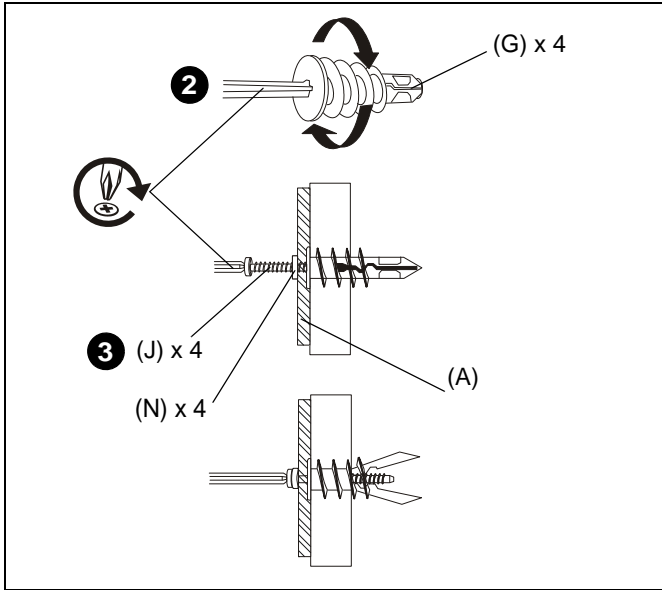
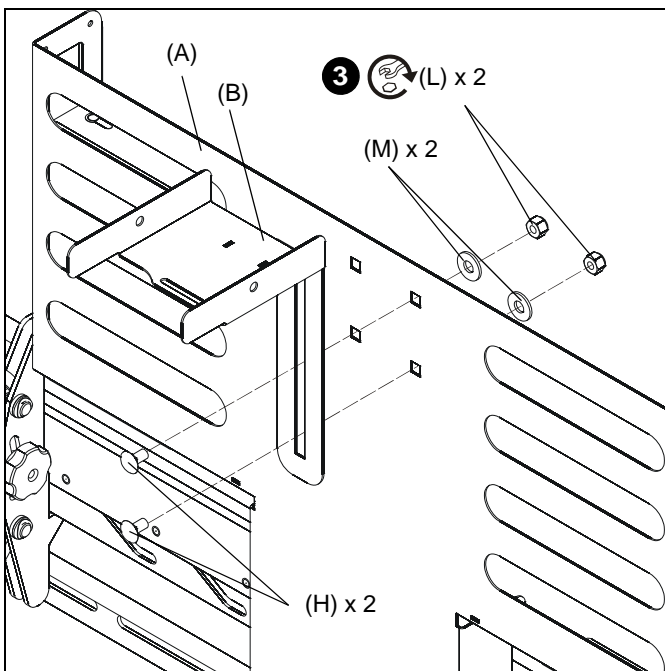

Figure 4
Figure 5
2. Install anchors (G) into wall at marked locations using a Phillips screwdriver. (See Figure 4)
- Secure CPU adapter (A) to anchors in wall using four #10 x 1-1/2" Phillips head screws (J) and four #10 washers (N). (See Figure 4)
- Determine whether to mount camera bracket (B) through right or left set of holes in CPU adapter (A).
- Insert two 1/4-20 x 1/2" round head carriage bolts (H) through camera bracket (B) and CPU adapter holes, 1/4" washers (M) and into two 1/4-20" lock nuts (L). (See Figure 5)
- Use 1/2" wrench to tighten lock nuts until camera bracket is secured to CPU adapter. (See Figure 5)